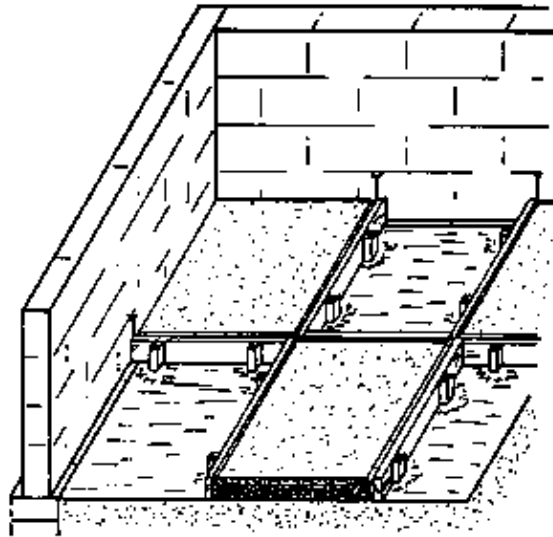

Fig. 4
- p. If a smoother surface is desired, finish off with a steel float. Make a chamfer along each edge next to the edge board to form half of the "V" groove above the shrinkage gap (Figs. 4 & 6).